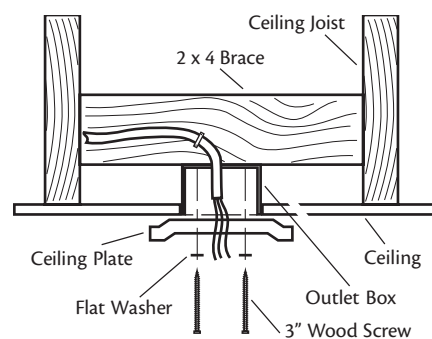

Figure 11 - Installing the ceiling plate
5. Place a flat washer on each of the two 3" screws and pass the screws through the slotted holes in the ceiling plate as shown in Figure 11.